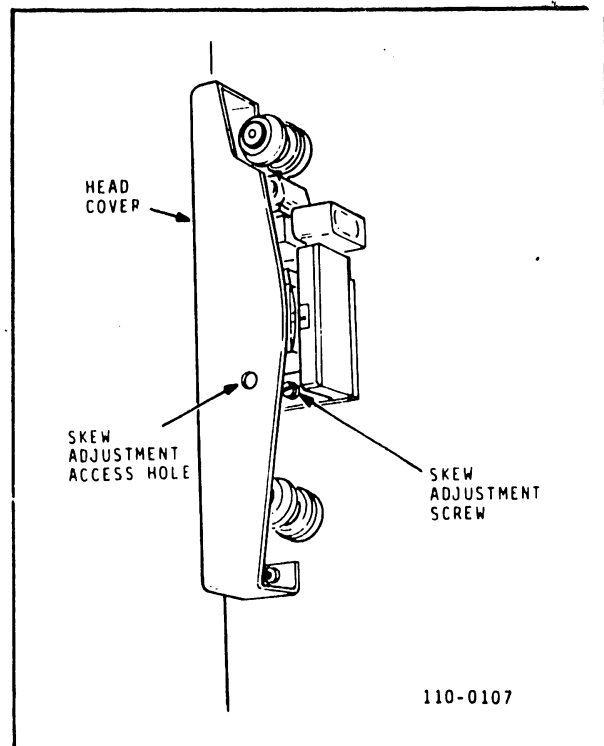

Figure 4-8. Head Skew Adjustment
- d. Observe SKEW indicator and adjust skew adjusting screw on the head mounting plate (Figure 4-8) until indicator does not come on.